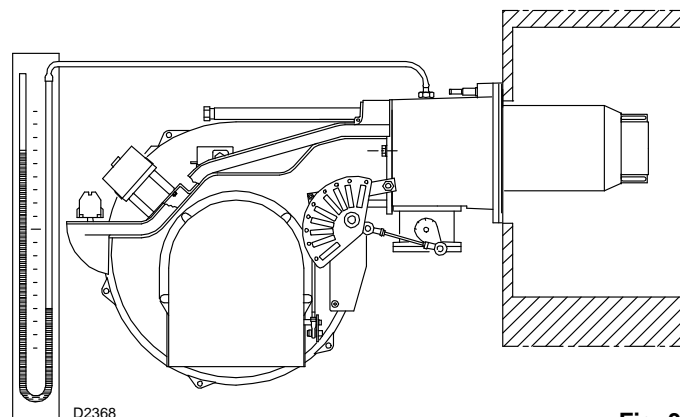

Fig. 31
- Purge the air from the gas line. Fit a U-type manometer (Fig. 31) to the gas pressure test point on the sleeve. The manometer readings are used to calculate the MAX. burner power using the Tab. J.